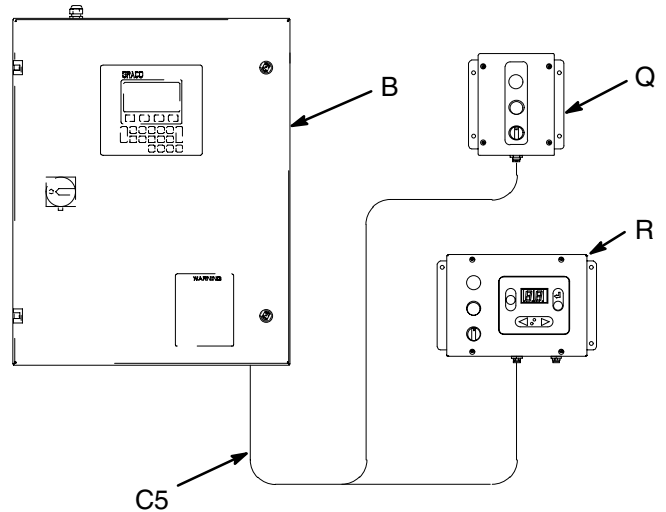

Fig. 3.11
Be sure the supplied cable (C5) can reach the PrecisionMix II 3K controller (B). 100 ft. (30.5 m) of cable is supplied, pre-connected to the operator station. The cable is pre-stripped and has ferrules assembled. See Fig. 3.11.